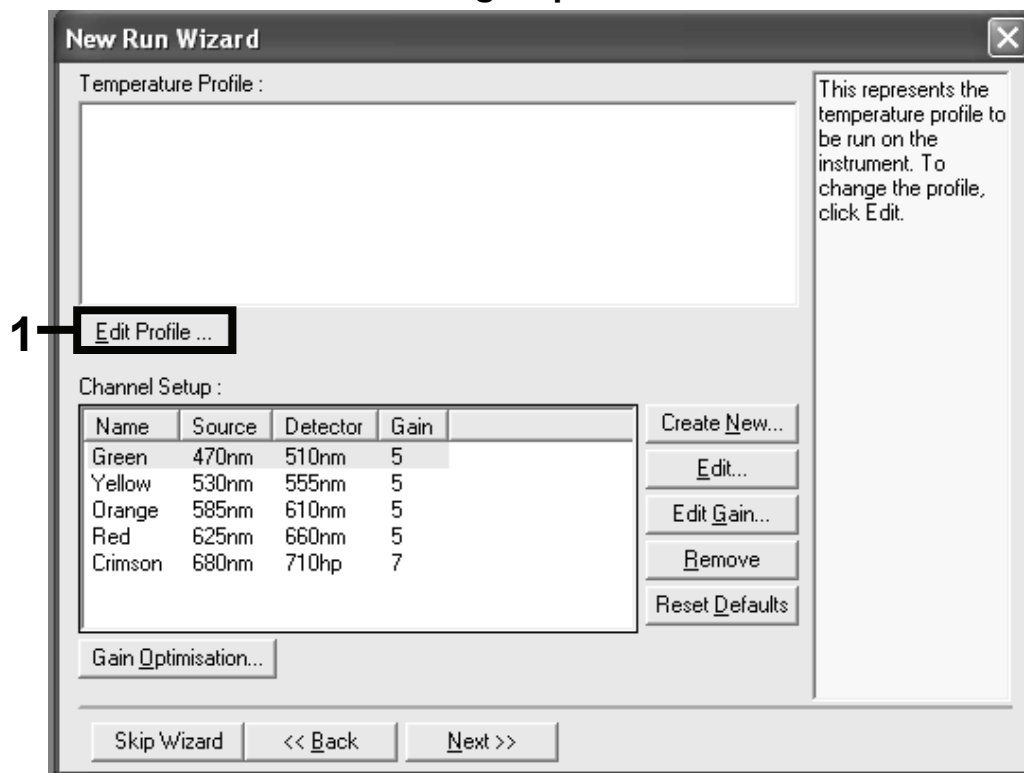

Figure 17. Editing the profile.
12. Click the “Edit Profile” button in the next “New Run Wizard” dialog box (Figure 17), and program the temperature profile according to the information in the following steps.